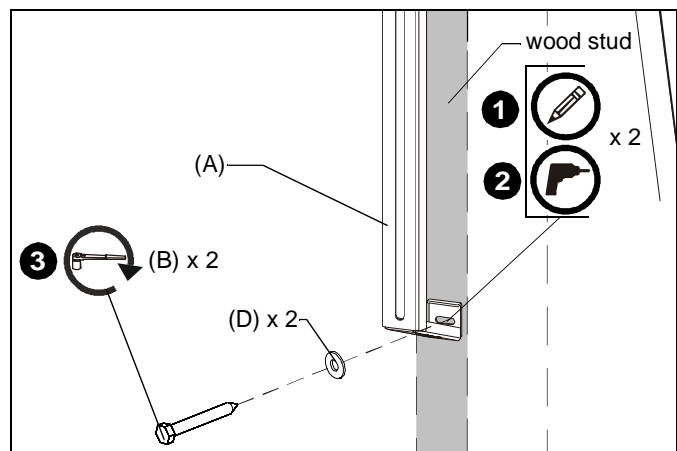

Figure 3
1. Mark the wall over stud through the fixed wall leg (A) on each WBM2 upright. (See Figure 3)
2. Drill one 1/8" pilot hole in each stud. (See Figure 3)
3. Use two 1/4-20 x 2-1/2" lag bolts (B) and two 1/4" flat washers (D) to attach both fixed wall legs (A) to wall. (See Figure 3)